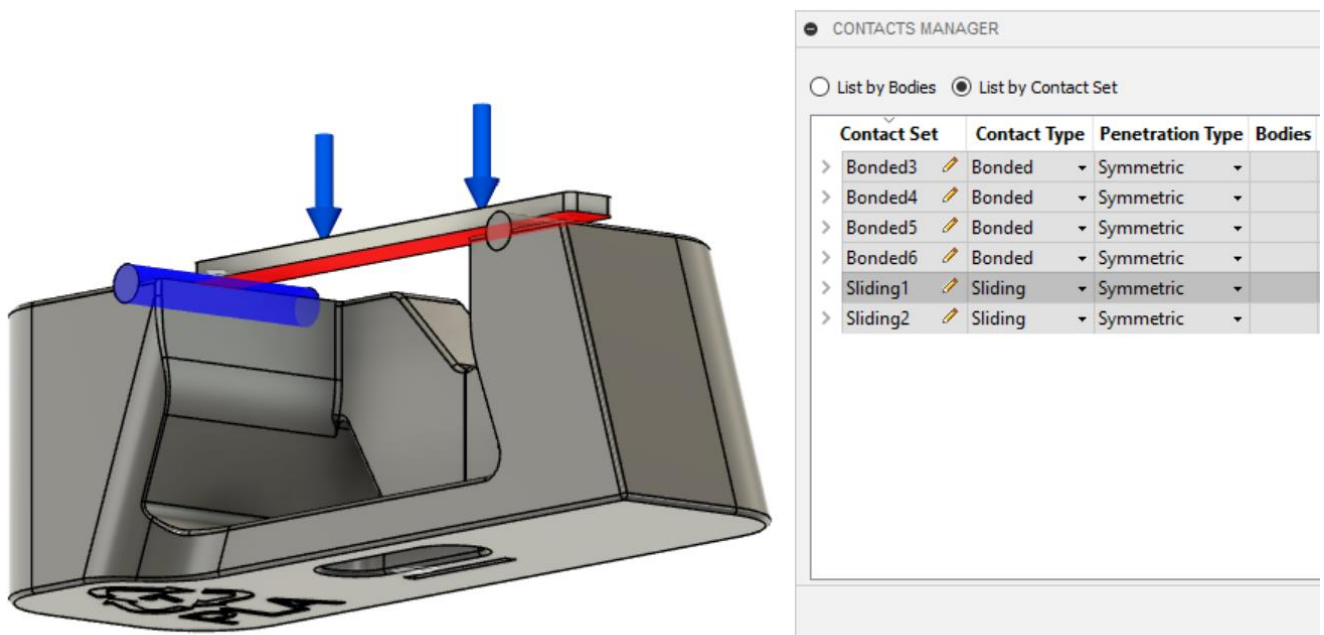

Figure 12: Sliding contacts are set for the surfaces where the specimen touches the dowels
- What would have happened if you maintained all of the contacts as bonded in the 3 and 4 point bending tests (Figure 12 for a prompt)?